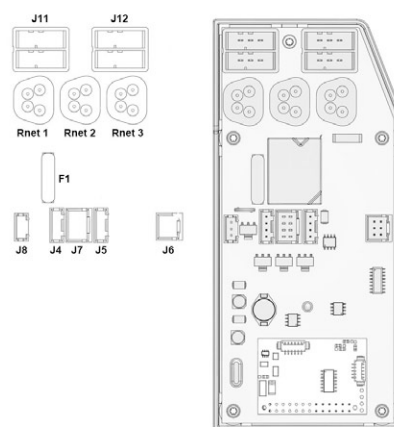

Figure 91. ICS Master Module
11. Disconnect the AP Elevator cabling from the ICS Master Module. It is connected to one of the connectors J11 or J12. See fig. 91. Release the cable from its cable brackets. Make note of how the cable is assembled with consideration to subsequent assembling.